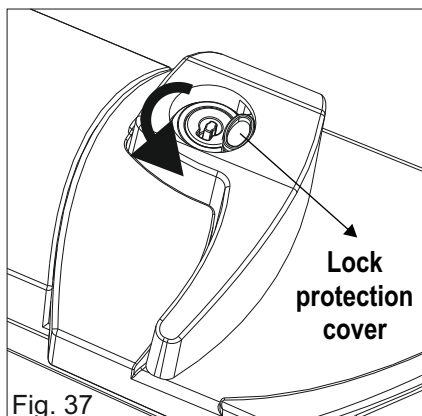

Fig. 37
- 1) Turn counter-clockwise the lock protection cover (Fig. 37)